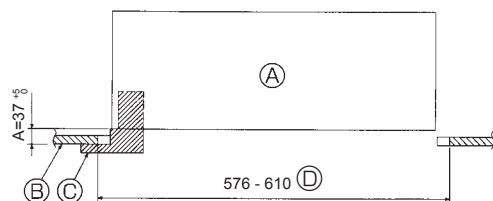
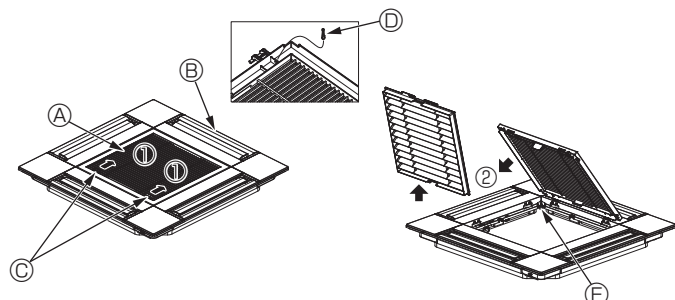

Fig. 10-2
Fig. 10-3
②	Screw with washer	4	M5 × 0.8 × 25 (mm)
③	Gauge	1
④	Junction wire for signal receiver	1	Included when equipped with the signal receiver.
⑤	Junction wire for i-See sensor	1	Included when equipped with the i-See sensor.
⑥	Fastener	2	Included when equipped with the signal receiver.
⑦	Fastener	2	Included when equipped with the i-See sensor.
⑧	Wireless remote controller	1	Included when equipped with the wireless remote controller.
⑨	Remote controller holder	1	Included when equipped with the wireless remote controller.
⑩	LR6 AA batteries	2	Included when equipped with the wireless remote controller.
⑪	3.5 × 16 tapping screws	2	Included when equipped with the wireless remote controller.
10.2. Preparing to attach the grille (Fig. 10-2)
- ① Main unit
- ② Ceiling
- ③ Gauge (Accessory)
- ④ Ceiling opening dimensions
10.2.1. Removing the intake grille (Fig. 10-3)
- Slide the levers in the direction indicated by the arrow ① to open the intake grille.
- With the intake grille in the "open" position, remove the hinge of the intake grille from the grille as indicated by the arrow ②.
- ① Intake grille
- ② Grille
- ③ Intake grille levers
- ④ Grille hook
- ⑤ Hole for the grille's hook